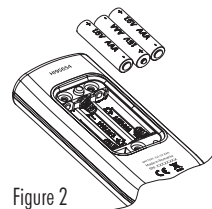

Figure 2
4. Insert three new 1.5V AAA batteries in the battery compartment while paying attention to the correct polarity (figure 2).